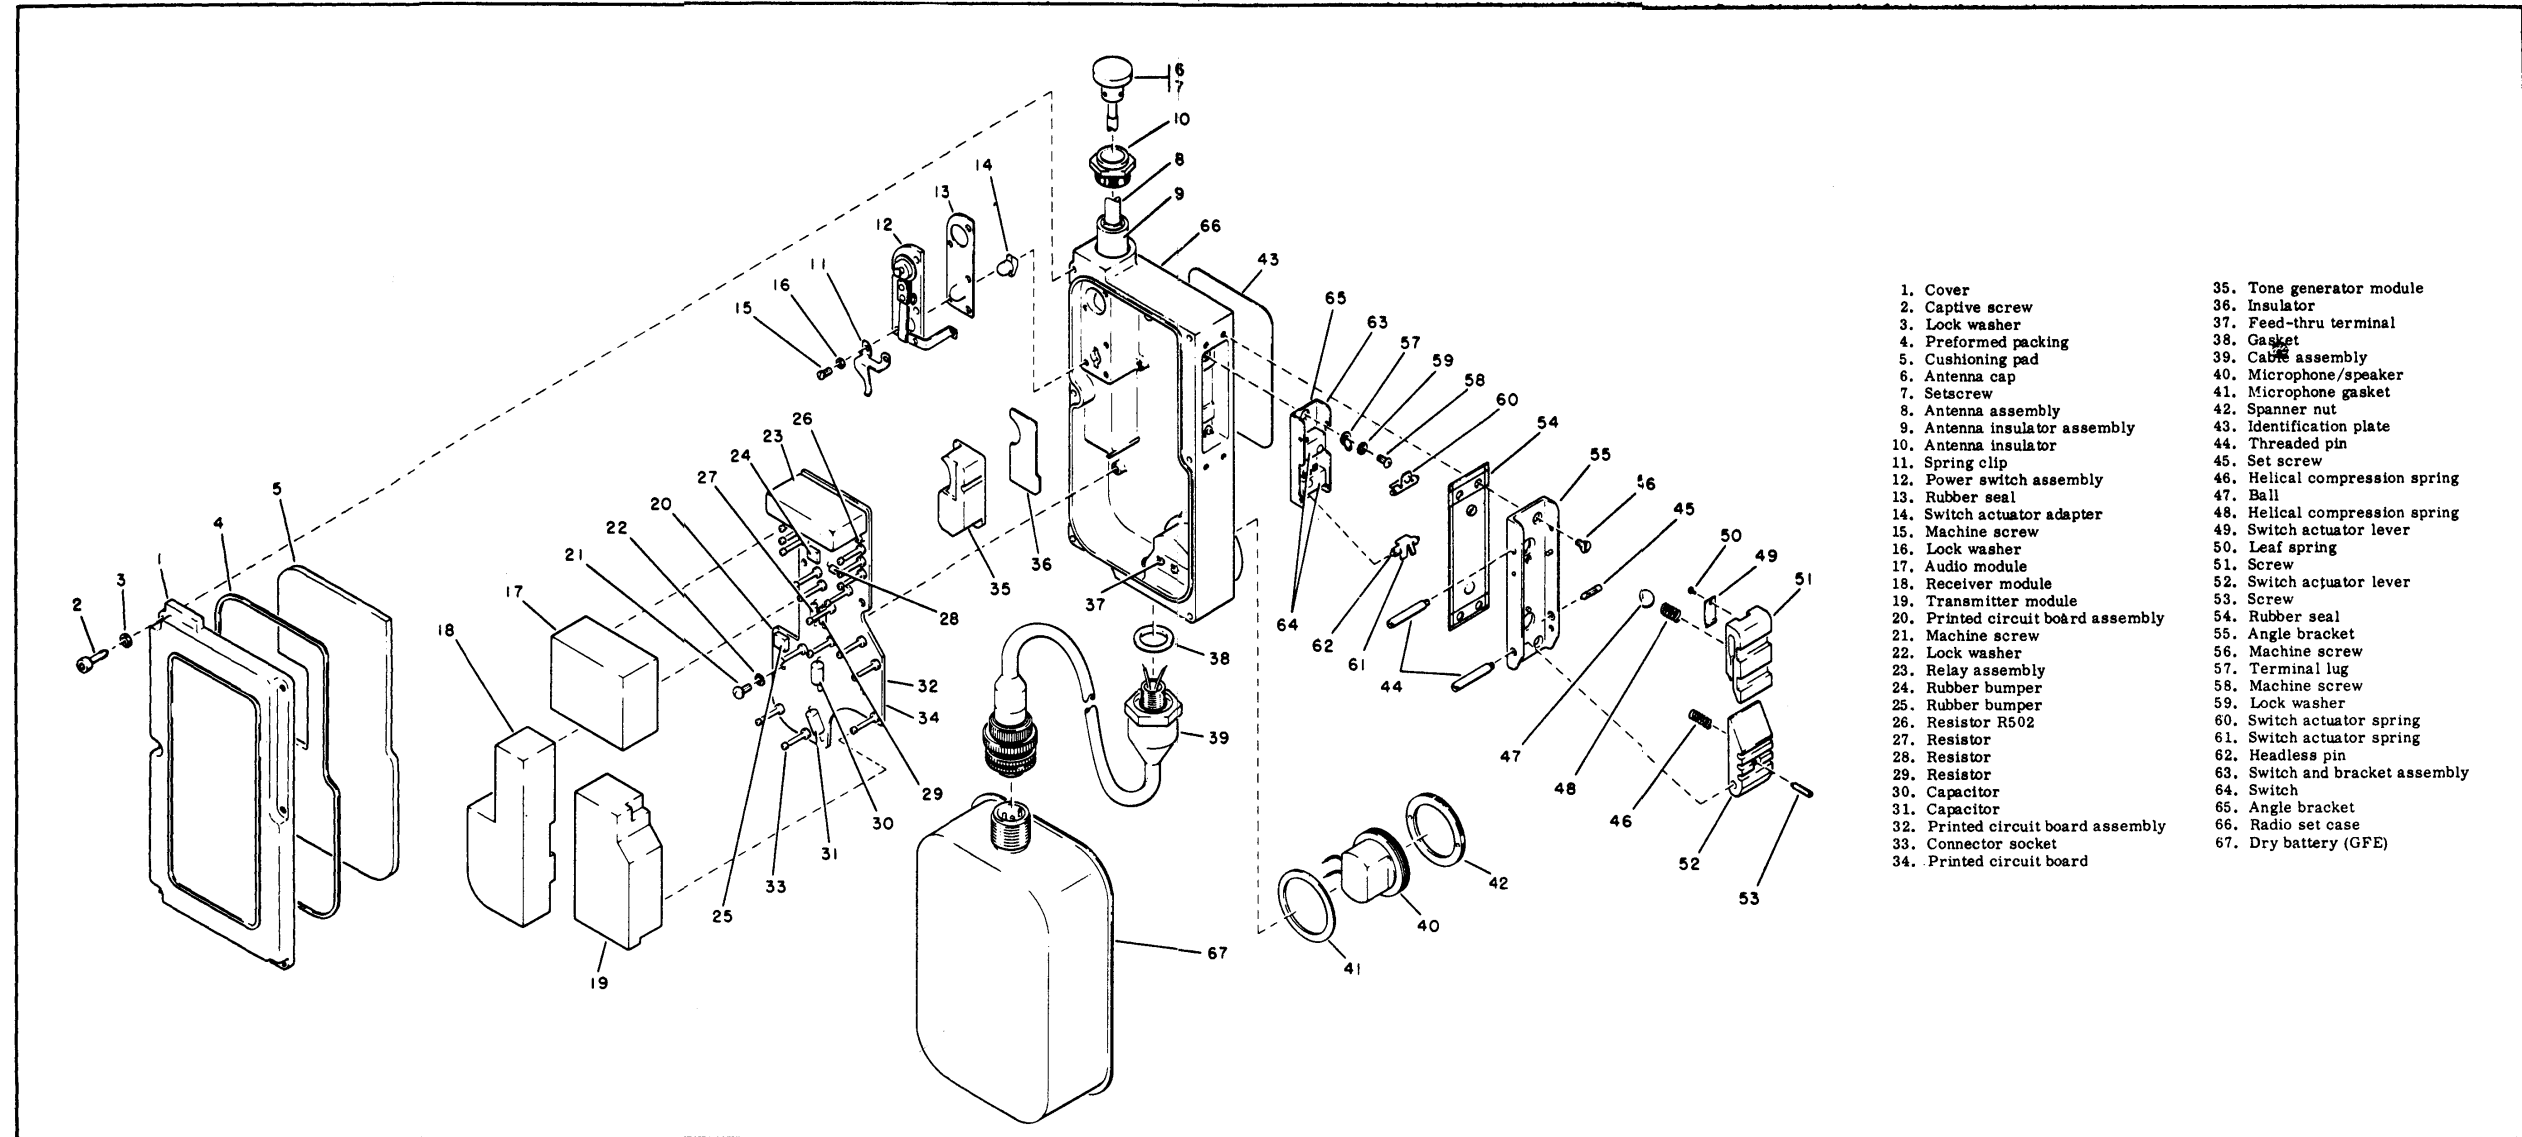
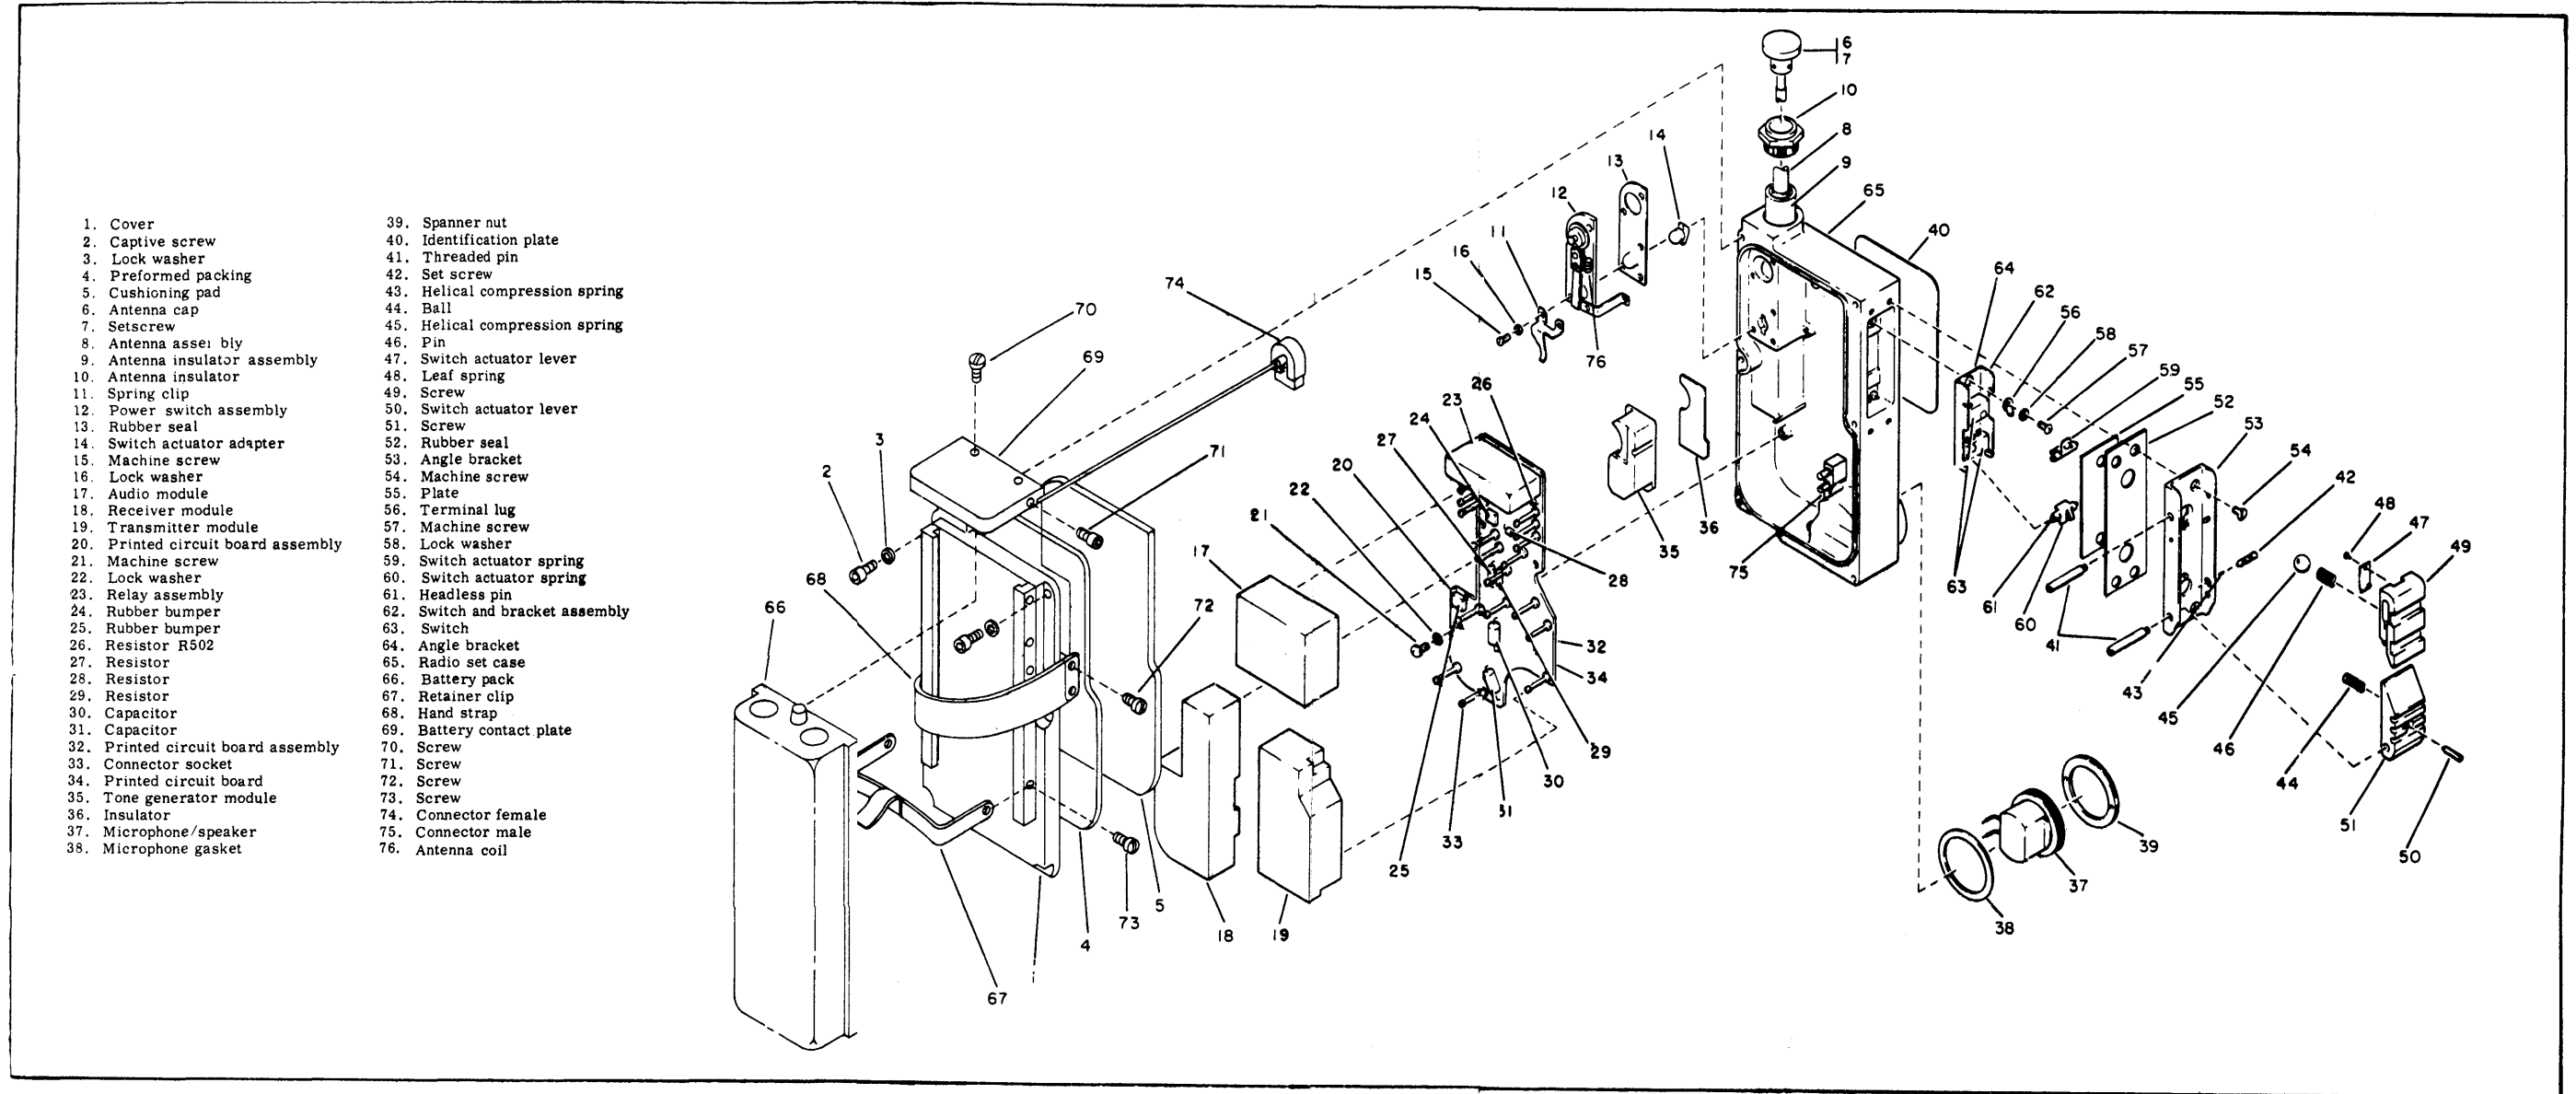

Figure 6-6. Receiver-Transmitter RT-278A/URC-10, Exploded View
Figure 6-7. Receiver-Transmitter ACR RT-10, Exploded View
**6-12. SPEAKER/MICROPHONE REMOVAL.** Remove cover (25), and screw. Lift speaker/microphone assembly (26) from case (34).
**6-13. COMPONENT BOARD REMOVAL.** Remove four screws (31) and lock washers (32) and lift component board (30) from case (34).
**6-15.** Refer to figure 6-6, showing the exploded view of Receiver-Transmitter RT-278A/URC-10. All index numbers in the following removal instructions refer to figure 6--6.
a. First position the antenna elements with respect to the plastic antenna insulator assembly (9) as shown in figure 6-6, so that the ball-end of the outermost antenna section projects approximately one-half inch out of the bottom end of the insulator assembly (9).
b. Rotate the insulator assembly (9) so that the switch-actuator slot (lower one) in it faces toward the rear of the radio set case.
c. Holding the antenna sections and plastic insulator assembly (9) in the same relative position to each other, gently insert the antenna assembly into its compartment of the radio set.
d. Insure that the plastic antenna insulator assembly (9) is fully seated (in accordance with the keying notches at its lower end). Then screw the
a. Loosen and unscrew the antenna insulator nut (10, figure 6-6), and then extend the antenna sections such that the largest diameter section of the antenna (bottom-most section) projects only about one-half inch out of the antenna compartment.
b. Carefully pull the antenna outward slowly until the top end of the insulator assembly (9) can be grasped. Grasp the plastic insulator assembly (9), and while holding this assembly and the antenna sections in the same relative positions to each other, continue to pull them out of the antenna compartment.
**6-19. REMOVAL AND REPLACEMENT OF RADIO SET COVER.** To remove or replace the cover (1, figure 6-6) from the RT-278A/URC-10, or ACR RT-10 (1, figure 6-7), proceed as follows:
a. Loosen the six captive screws (2) and gently lift the cover off. Disconnect P501 (ACR RT-10 only). Use care to prevent damage to the preformed packing (4) in the cover. Use care to prevent damage to the sealing land of the set while the cover is OFF. Do not let tools accidentally strike the sealing land.
b. When replacing the cover (1) on the radio set, insure that the cushioning pad (5) and the preformed packing (4) are in their correct positions in the cover, connect P501 (ACR RT-IO only). Install the cover and tighten the six captive screws (2) securely.
**If the preformed packing (4) needs replacement at any time, coat the new preformed packing with Dow-Corning DC-4 compound before pushing the packing into its groove in the cover.**
a. To remove the battery from the RT-278A/URC-10, first loosen the locknut on the connector of the cable assembly (39, figure 6-6). Then loosen the connector from the battery (67) and disconnect it. When replacing the battery, first mate the connector to the battery and fasten it securely. Then tighten the locking ring on the connector, to achieve a water-tight connection.
c. To remove the K308 battery pack and rear cover from the ACR RT-10 (figure 6-7), loosen the six captive screws (2) and move aside the cover to expose the battery connector, P501 (74). Remove P501, discard the battery pack and rear cover. When replacing the battery pack and rear cover, insure that cushioning pad (5) and preformed packing (4) are correctly positioned. Connect P501 (74), install cover (1), and tighten six screws (2).
d. To remove the K308A battery pack (66) from the ACR RT-10 (figure 6-7), grasp the lanyard on the battery retainer clip (67) and swing the clip outward from the case. Grasp the battery (66) and slide downward out of the rear cover channels. Replace the new battery by sliding upward into the rear cover channels, making sure that the flexible silicon-rubber material at the top of the battery is penetrated by the two wire prods in the top of the battery contact plate (69). Grasp the lanyard and swing down the retainer clip (67) to secure the battery in place.
a. Remove the cover (1, figure 6-6) as instructed in paragraph 6-19.
Use care when removing modules, to prevent damage to the connector sockets (33, figure 6-6) or to the printed circuit board assembly (34).
c. To replace any module, position the module over its connector sockets (33) correctly and push the module into place. Insure that the module is fully seated into place. Replace the cover (1).
a. Remove the spanner nut (42, figure 6-6). Then lift the speaker/microphone (40) out of its waterproof compartment.
b. When replacing the speaker/microphone first seat it in its compartment. Install the gasket (41). Replace the spanner nut (42) and tighten it.
**6-23. REMOVAL AND REPLACEMENT OF PRINTED CIRCUIT BOARD ASSEMBLY.** The printed circuit board assembly of the radio set (32, figure 6-6) is removed or replaced as follows:
a. Remove the cover (1) and remove the three plug-in modules (receiver, transmitter, and audio module).
b. Remove the five machine screws (21) which hold the printed circuit board assembly in the case.
c. Remove the five machine screws and lock washers (15 and 16) and hold the switch assembly (12).
d. The printed circuit board assembly, the switch assembly, and the tone generator module (35) can now be lifted out of the case far enough for inspection of the track side of the printed circuit board assembly. If complete removal of the printed circuit board assembly is required, unsolder the necessary wires between the board assembly and the speaker/microphone terminals, switch assembly, or tone generator module.
e. To replace the printed circuit board assembly, first resolder any wires that were disconnected during removal. Then replace the board assembly in its correct position within the case and reinstall the five machine screws (21) that mount the printed circuit board assembly.
f. Position the tone generator module (35), the switch assembly (12) and the spring clip (11) in their correct positions and fasten them with the five machine screws and lock washers (15 and 16).